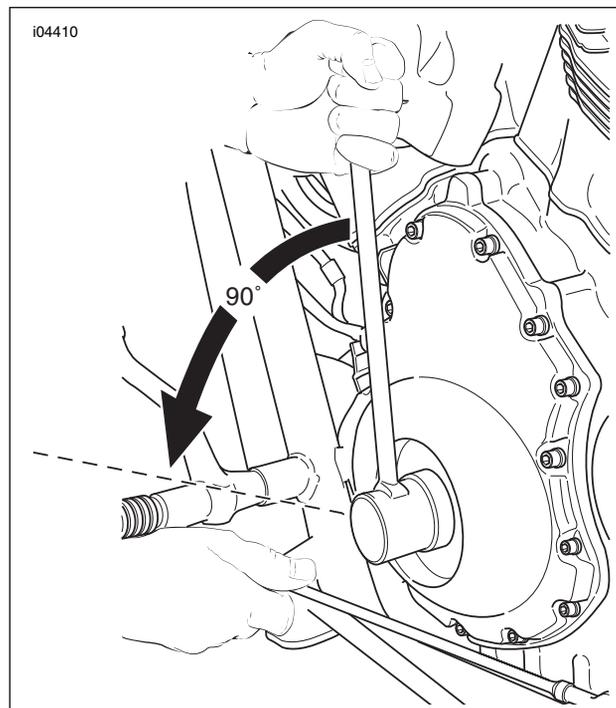

Figure 1-88. Positioning Piston
- a. See Figure 1-88. Install CRANKSHAFT ROTATING WRENCH (HD-45314).